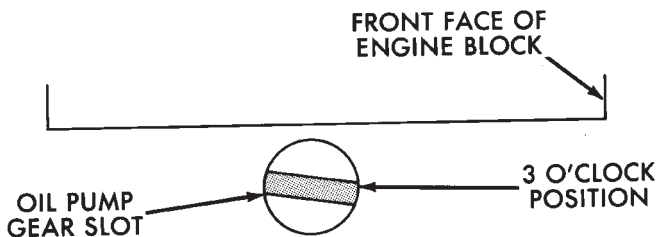

Fig. 12 Oil Pump Gear Slot Alignment
(12) Properly position the distributor rotor as follows:
- (b) Rotate the oil pump gear so that the gear slot on the oil pump shaft is slightly past the 3 o'clock position (Fig. 12). A flat blade screwdriver can be used to rotate the gear.